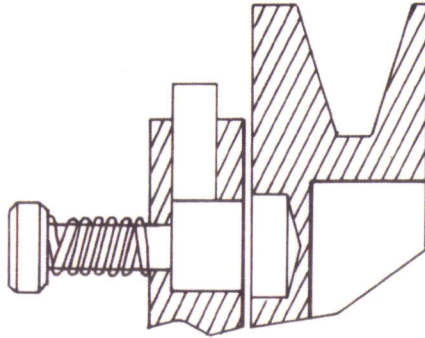

Figure 2-11 Air compressor drive
- a. Depress the pin on the front of the clutch (see Fig. 2-11), then rotate the clutch head until the pin locates in one of the four drive slots in the drive pulley.